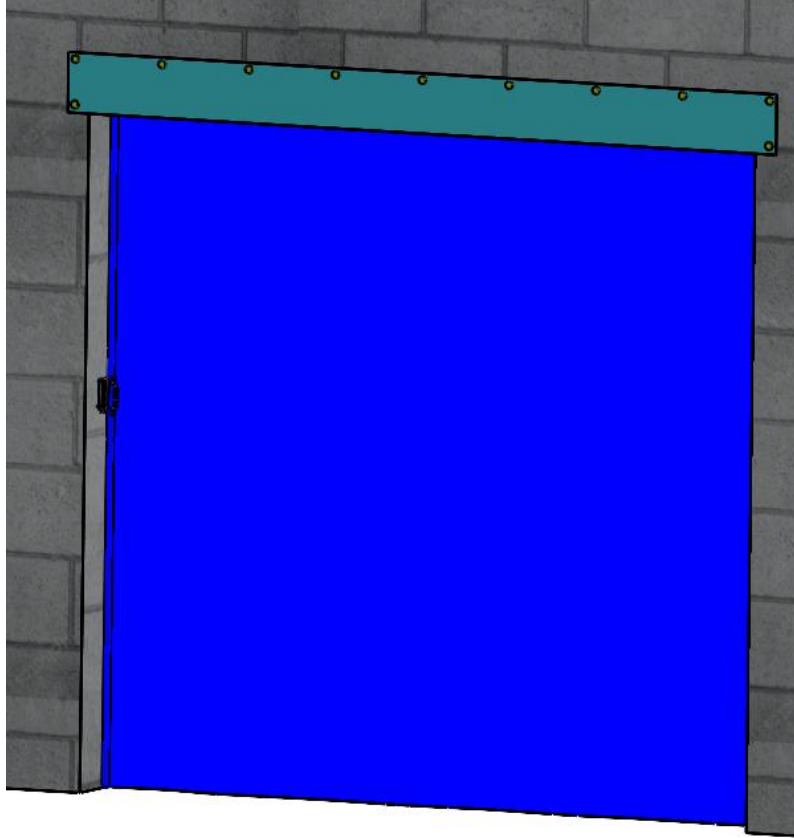

Figure 7 Install Valance
1. Attach the valance panel to the building fascia through the grommets using the provided rubber washers and self-tapping screws. Center the Valance on the opening, and locate the top edge at about be 2"-4" (two to four inches) above the door opening Header concealing the grommets and Roller Hooks. Screws and anchors are provided. (Figure 7 Install Valance)